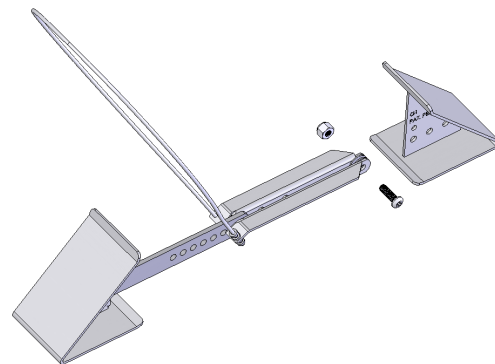

Figure 1
1. Remove the Fastway[®] ONESTEP[™] chock and other parts from the packaging. Remove the bolt and nut holding the double arms to the wedge using the hex key provided for adjustments, and a 9/16" socket. See Figure 1.